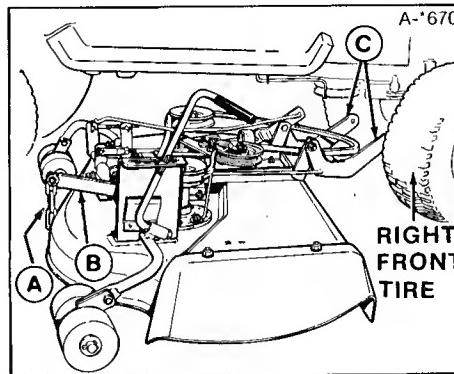
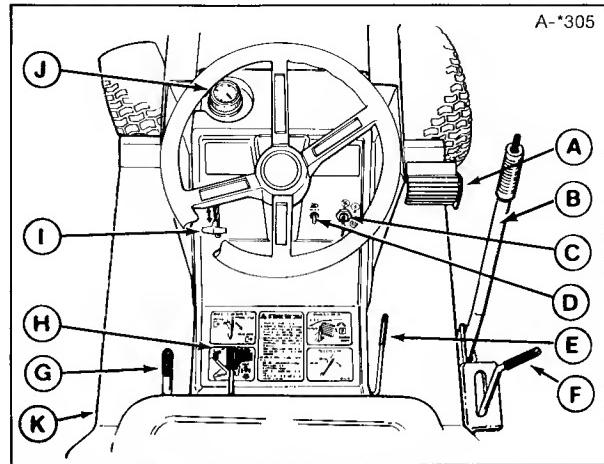

Figure 1. Installing 36" Mower
Figure 8. Tractor & Mower Controls
The lift chain (A, figure 1) should be connected to the rear hole in lift arm (B) unless optional large lift lever (B, figure 8) is used to raise mower. With large lift lever, connect chain in forward hole.
2. Turn the tractor front wheels full left (figure 1).